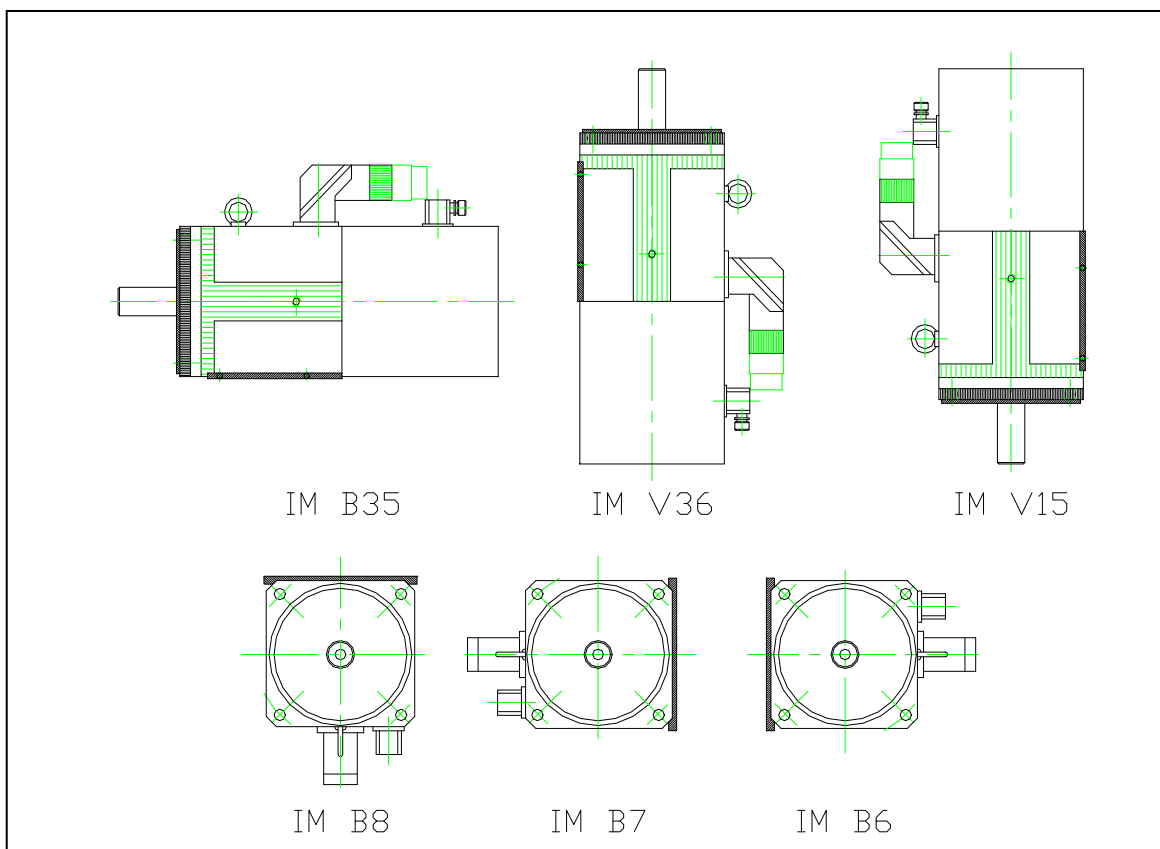
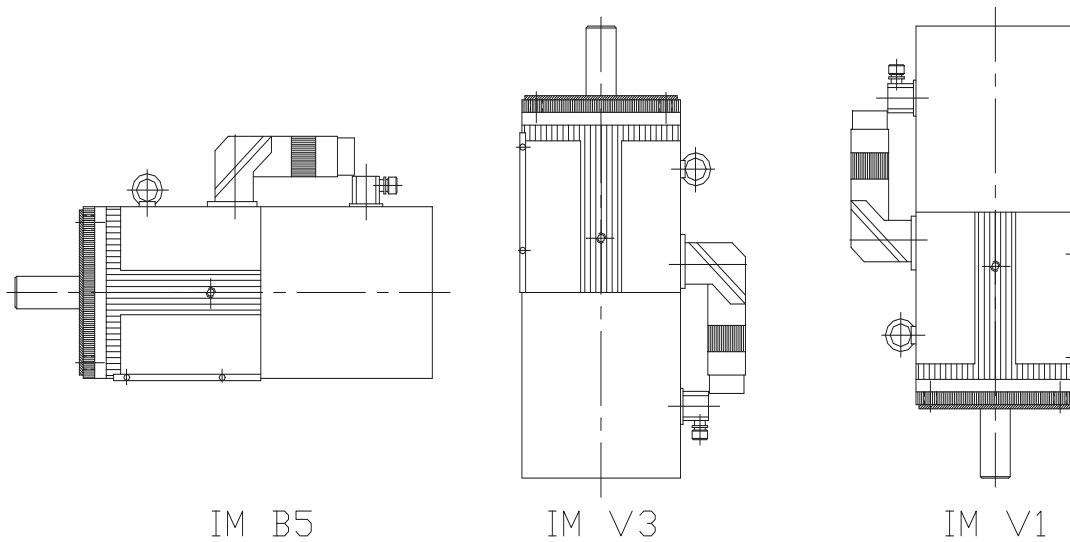

Figure 7-8, Design B35 - Mounting Flange Configurations
Figure 7-9, Design B5 – Securing the Motor
The ANILAM spindle motors are available in IM B35 design according to EN 60 034-7 (see **Figure 7-8**). The ANILAM axis motors are available in IM B5 design (see **Figure 7-9, Design B5 – Securing the Motor**) according to EN 60 034-7.
According to EN 24017 or DIN 912, ANILAM recommends the following screws to secure motors. Refer to **Figure 7-9** and **Table 7-14**.
- IM B5 design (for securing by flange) according to EN 60 034-7 (See Figure 7-9, Design B5 – Securing the Motor).